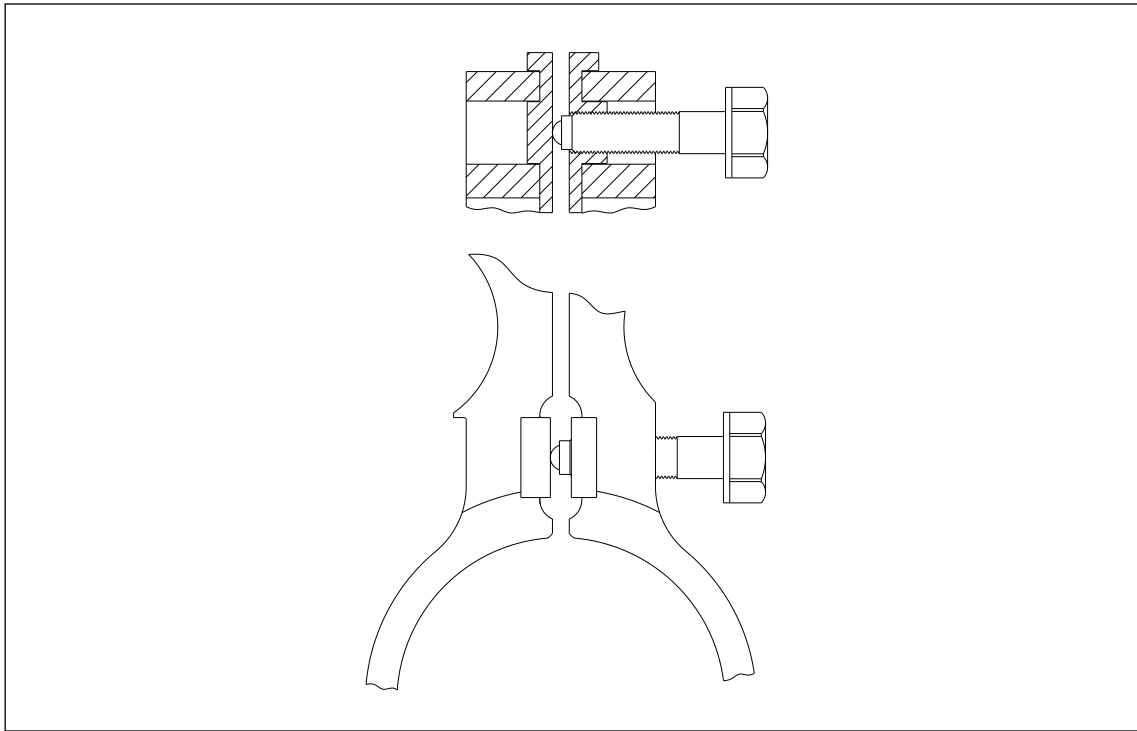

Figure 2 - Clamp remover
B. Remove the clamp using a clamp remover (see figure 2).